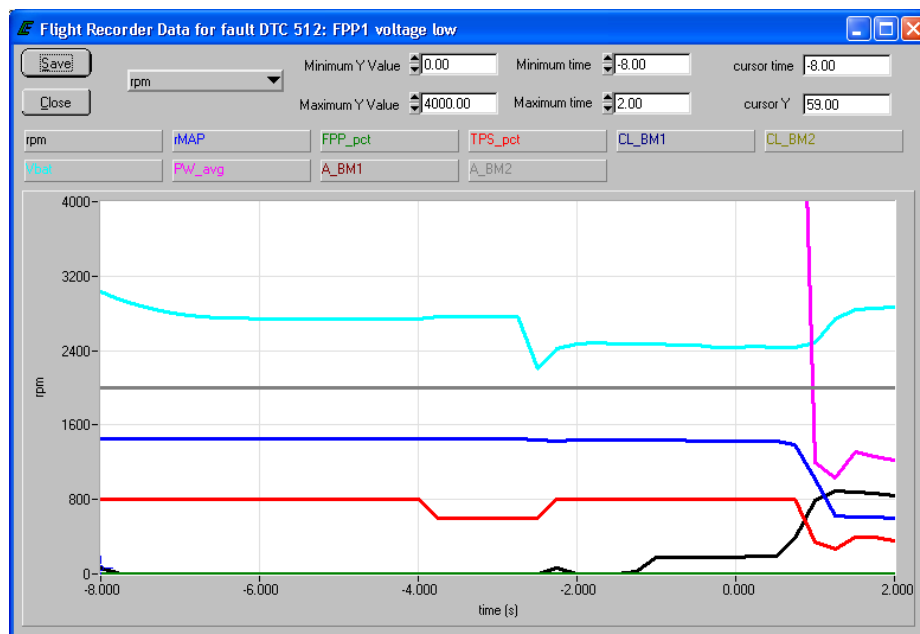
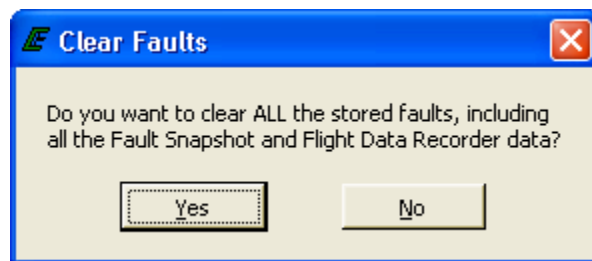

Figure 7: - Flight Data Recorder Interface
Figure 8: - *Clear Faults Prompt*
Figure 7 shows the Flight Data Recorder interface after View Flight Data Recorder is selected. The FDR captures a ten second (eight seconds prior and two seconds after generating the fault) strip of data for base and custom variables. FDR data is presented in an interface similar to the Plot interface for a quick graphical presentation. From this interface, the FDR data may be saved to the PC in text, tab-delimited format with an .fdr file extension. Once saved to PC, FDR data may be reviewed using any graphical post-processing software capable of handling tab-delimited formatting. Fault information may be manually erased using the "Clear" button functions. Once a "Clear" function has been selected, the dialog prompt shown in Figure 8 will be displayed. Choosing YES deletes all fault information from the ECM.
View Flight Data Recorder Data Button	Retrieves a 10-second data strip chart (8 seconds prior, 2 seconds after fault trigger) from the ECM for variables defined in the base and custom flight data recorder definition lists. An example of a fault snap shot is shown in Figure 7.
* Snapshot and flight data recorder data for historic faults is erased after the prompt shown in Figure 8 is satisfied